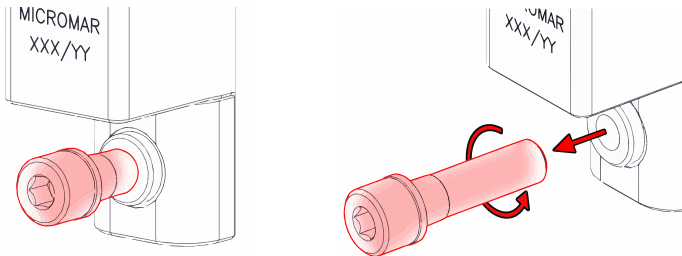

Figure 16
2. Insert the Extension Posts, each in their position, in the Frame's internal part (Figure 16);